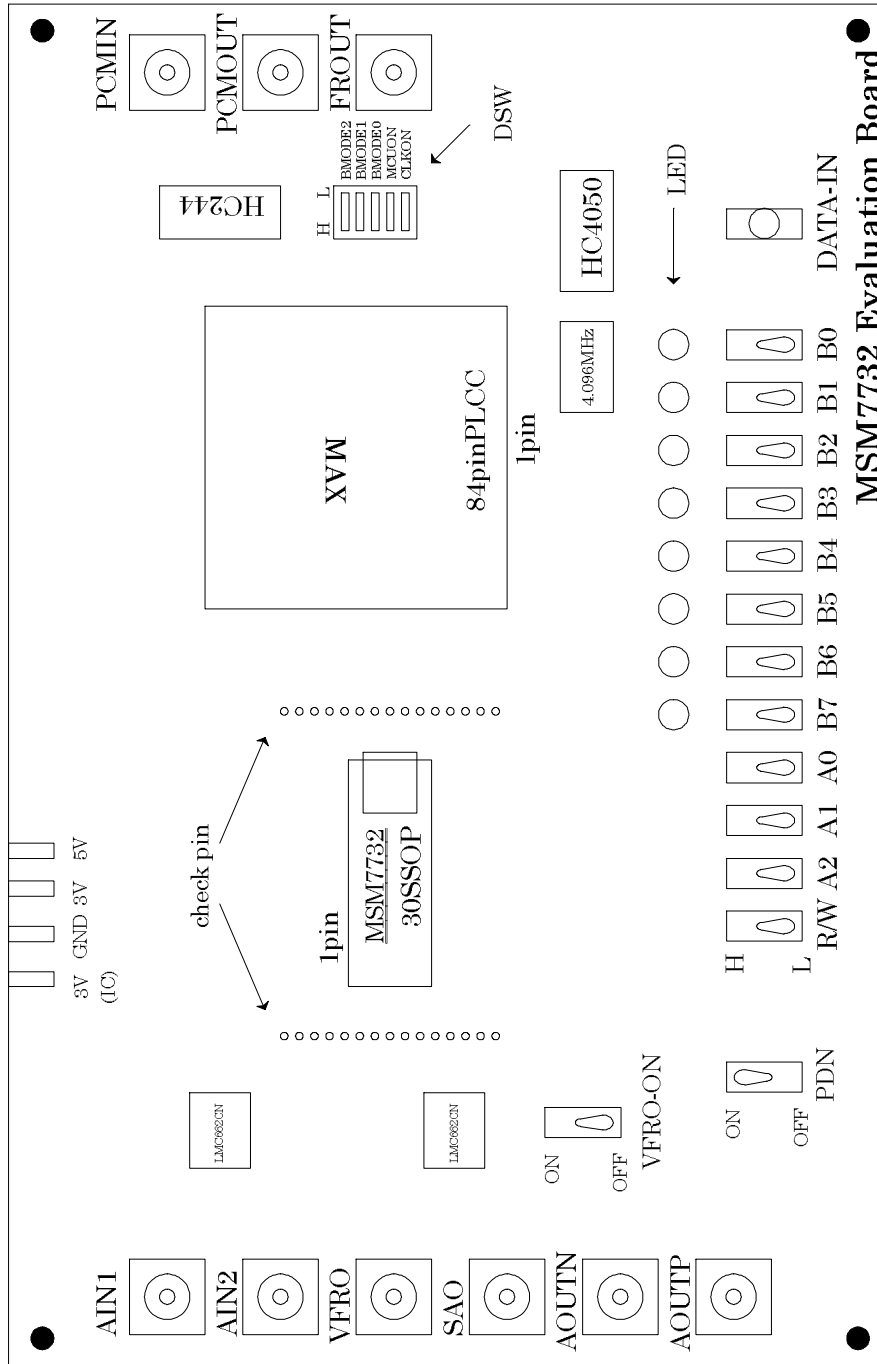

Figure 4. The layout of the board
- The layout of the components and switches on the board : Figure 4(Page 5)